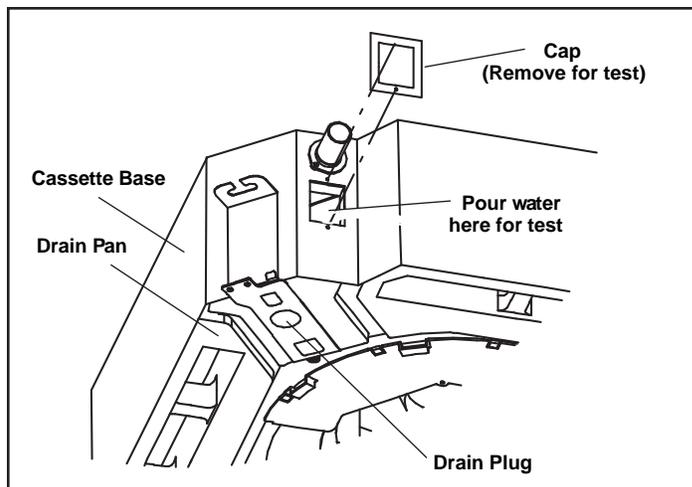

Figure 9. Test Condensate Drain
6. After system installation is complete, the condensate drain line must be checked for leaks and the condensate pumps must be checked to ensure proper operation. This check is part of the commissioning sequence. Pour water into the evaporator drain pan to ensure proper condensate drainage. See figure 9. If a leak is found, shut down power to the unit at once and do not restore power to the unit until the problem has been resolved.